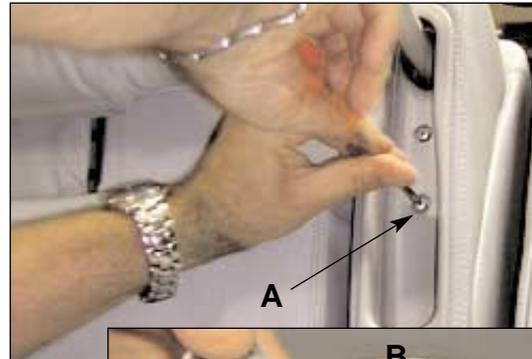

FIG. 313:
- (1) To remove shell assy from the seat, see instruction on para B.1 and B.2.
- (2) To remove handle (100), remove plastic covers and then screws (110).
- (3) Remove literature pocket spring (50) by removing its attaching screws (70).
- (4) Remove reading light assy (with fairing) by means of two screws (A) (see fig. 313).